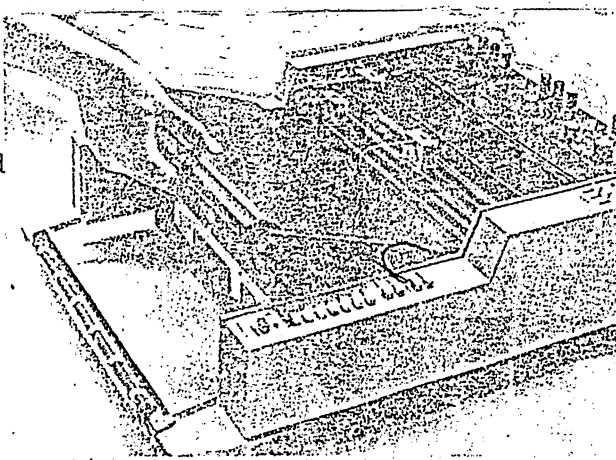

Fig. 7
b) Raise up the end of chart table as shown in Fig. 7., and draw it out to you to remove it. Under the chart table, chart loading box can be seen.